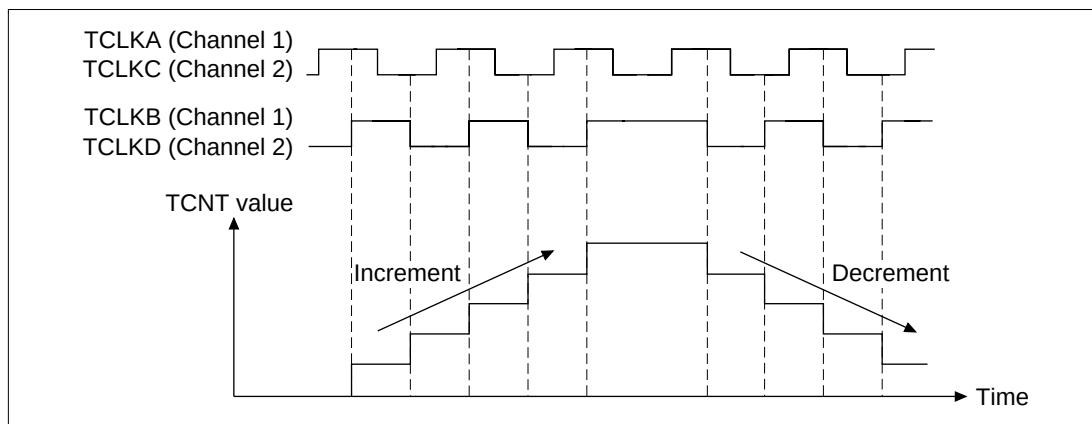

**Figure 12.33 Phase Counting Mode 4 Operation**
**Phase Count Mode 4:** Figure 12.33 shows an example of phase counting mode 4 operation. Table 12.12 lists the up counting and down counting conditions for the TCNT.